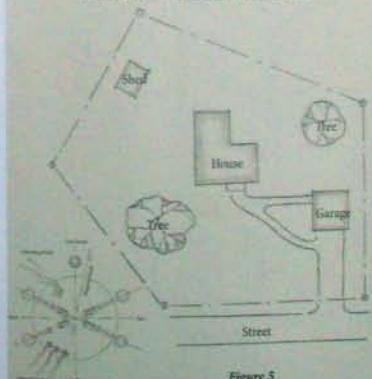

Figure 5
**CAROL'S EXPERIENCE** Sun-path charts are a great way to determine where the sun will be at any time of day or year, without having to make notes and measurements for a whole year (see Resources on page 260). Using a sun-path diagram for your latitude, you can find the direction of the solstice sunrises and sunsets and plot days on a climate zone for your site (see the sidebar Climate Rose on page 40). Based on this information on your site plan to give you an immediate picture of where sunlight comes from at various times of the year (see figure 5). This will help you decide where to put windows, how-to-position shading devices, where to add thermal storage, and how to design outdoor rooms (more on these later in this chapter).